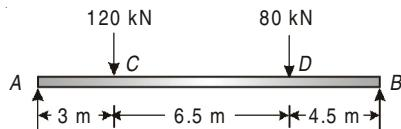

Fig. 4.31
- 4.5. Figure 4.31 shows the simply supported beam of span 14 m loaded with the two concentrated loads of 120 kN and 80 kN.